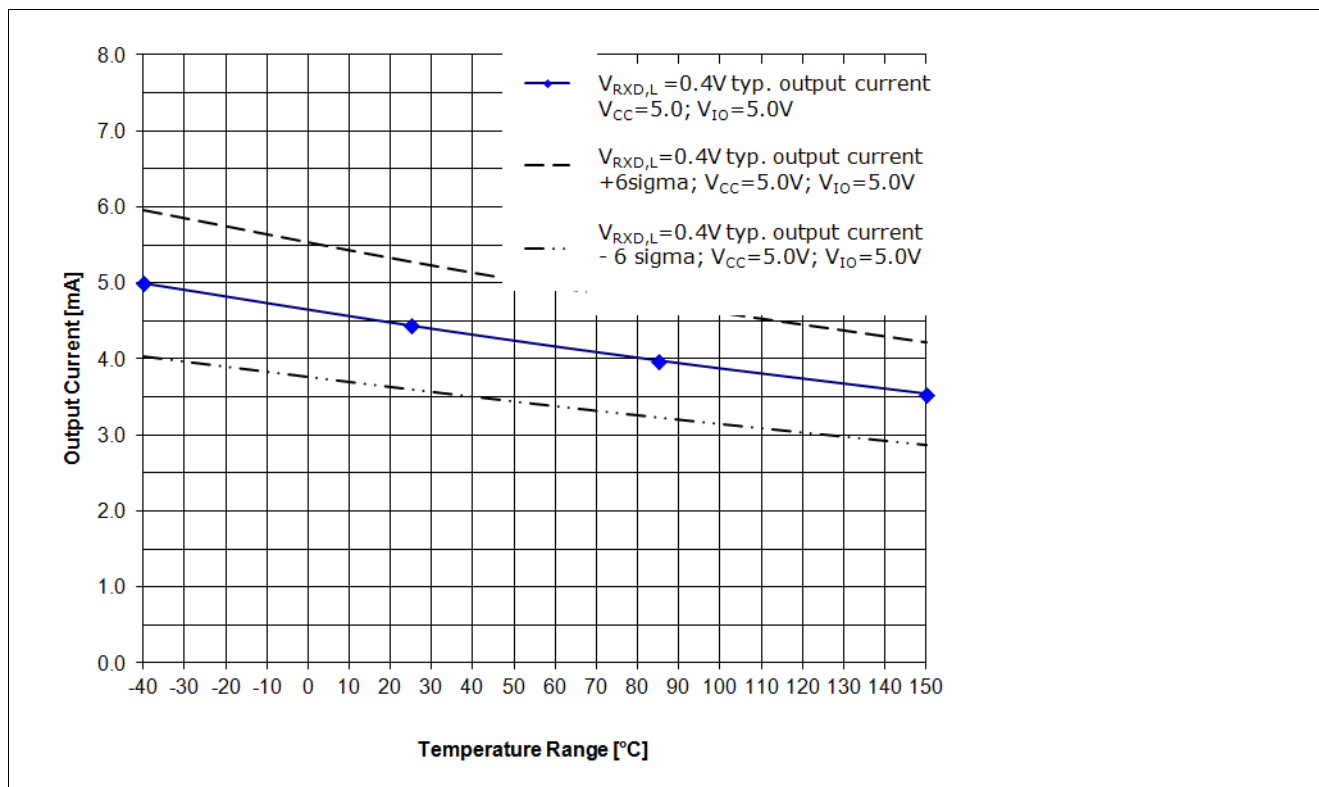

Figure 13 RxD Output driver capability for a logical "Low" signal  $V_{RxD,H} = 0.4V$ ,  $V_{CC} = 5.0V$ ,  $V_{IO} = 5.0V$ 1)
The diagram in Figure 13 and the diagram in Figure 14 show the current capability of the RxD output pin depended on the chip temperature  $T_J$ . Figure 13 shows the current capability of the RxD output pin at a  $V_{IO}$  power supply of 5.0 V and Figure 14 shows the current capability of the RxD output pin at a  $V_{IO}$  power supply of 3.3 V.
- The curve “ $V_{RxD,H} = 0.4$  V; **typ. output current**;  $V_{CC} = 5.0$  V;  $V_{IO} = 5.0$  V;” displays the typical output current at the RxD output pin of the TLE8250GVIO (see Figure 13).
- The curve " $V_{\text{RxD,H}} = 0.4 \text{ V}$ ; **typ. output current + 6 sigma**;  $V_{\text{CC}} = 5.0 \text{ V}$ ;  $V_{\text{IO}} = 5.0 \text{ V}$ ;" displays the expected maximum value of the output current at the RxD output pin (see Figure 13).
- The curve " $V_{\text{RxD,H}} = 0.4 \text{ V}$ ; **typ. output current - 6 sigma**;  $V_{\text{CC}} = 5.0 \text{ V}$ ;  $V_{\text{IO}} = 5.0 \text{ V}$ ;" displays the expected minimum value of the output current at the RxD output pin (see Figure 13).